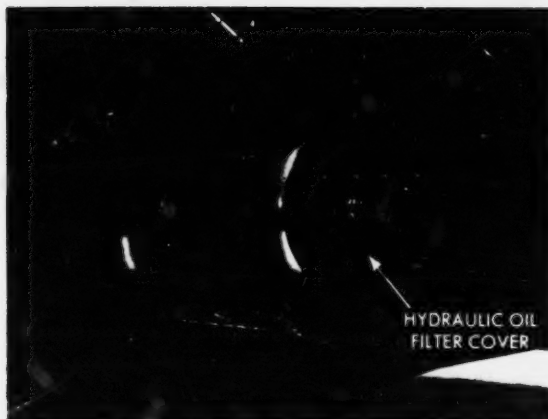

Fig. 29—Transmission-Hydraulic System Filter Covers
4. Replace transmission oil filter if there is one (Fig. 29).